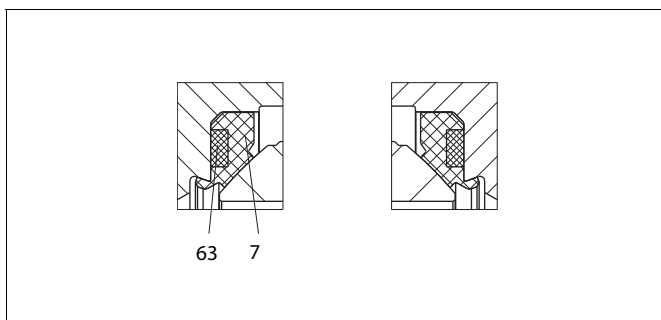

Fig. 20 P-seat
**For safety reasons the retaining plates (42) MUST always be installed as shown in 10.1.**
- ❑ **P- and S-seats:** Place the back seal (63) in the ball seat (7); see Figures 20 and 21. Place the seat in the body (1).